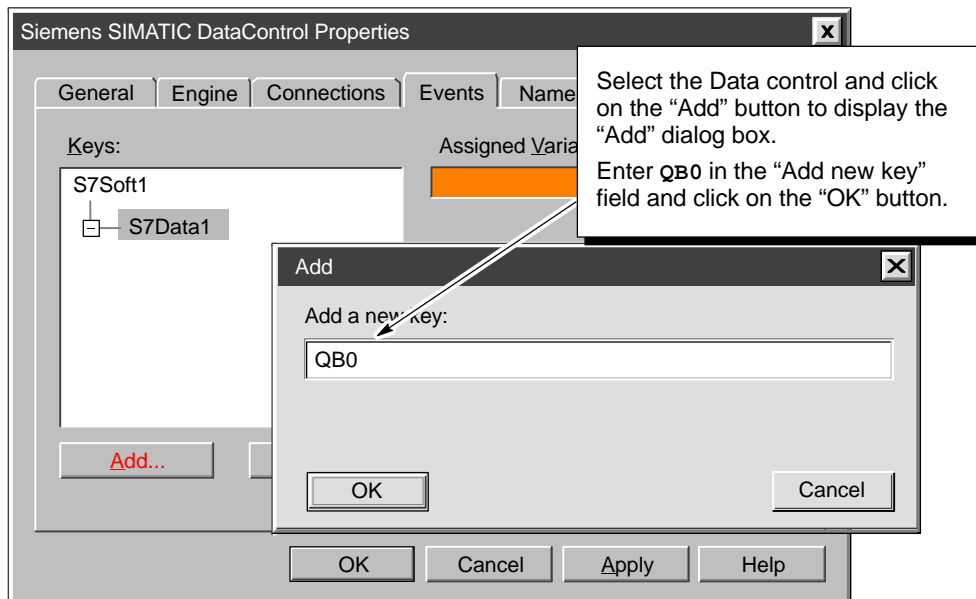

Figure 1-15 Adding an Event Key to the Data Control
2. Click on the "Add" button to add a new event key. See Figure 1-15. In the "Add" dialog box, enter QB0 in the "Add a new key" field.